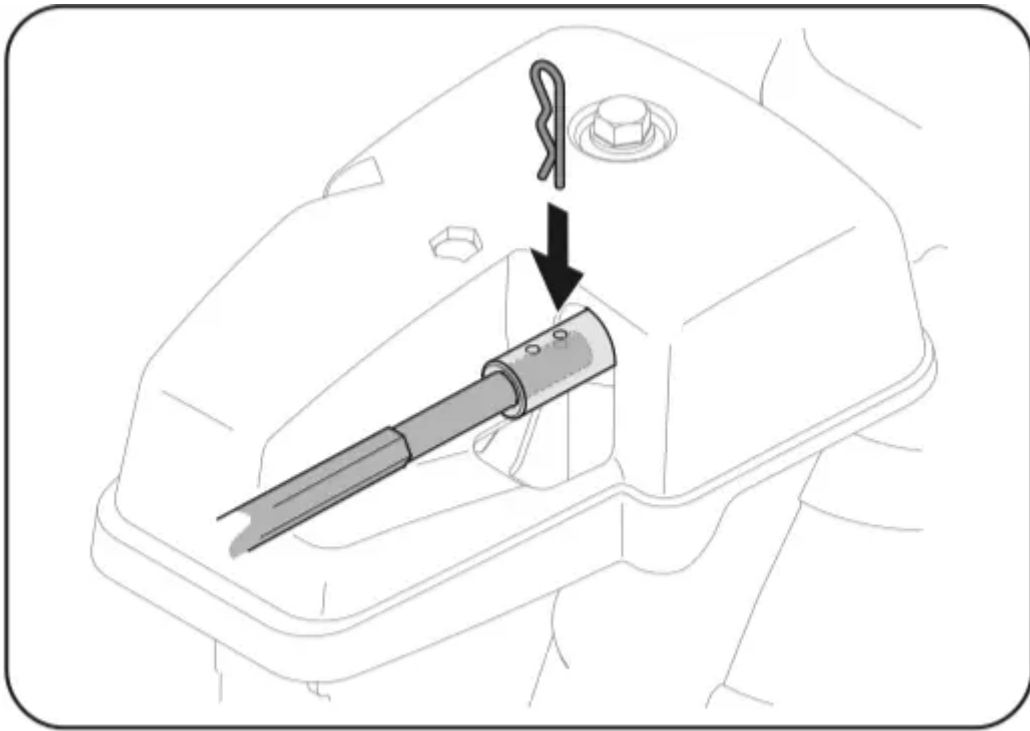

**Figure 24**
6. Insert chute control rod into pinion gear below joystick. Make sure to line up hole in rod with arrow on pinion gear. See Figure 24.